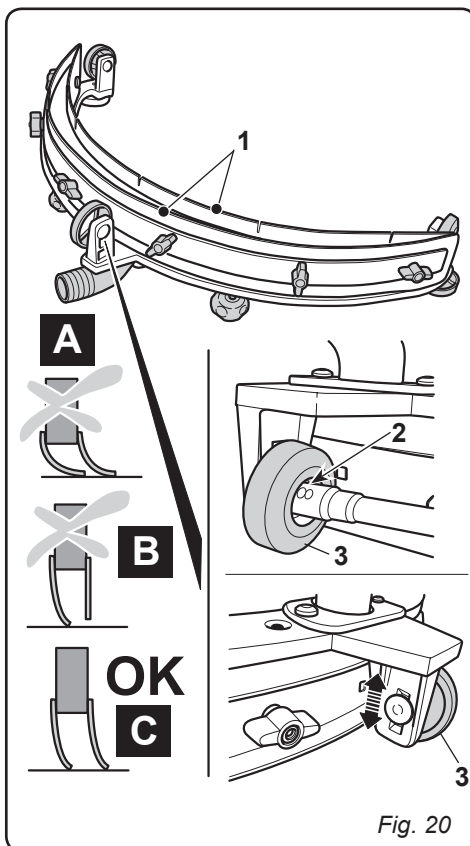

Fig. 20
11.1.g - Squeegee incidence set up (Fig. 20)
- Check the angle of incidence of the rubbers (1) on the floor.
11.1.h - Replacing the fuses (for CB version only) (Fig. 20)